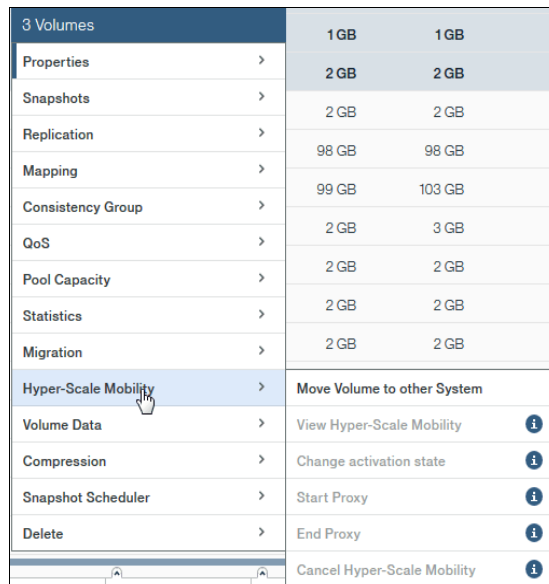

Figure 7-9 Online volume mobility menu
- To create the Hyper-Scale Mobility relationship, select the source volumes in the Volumes view and select **Hyper-Scale Mobility** → **Move Volume to other System**, as shown in Figure 7-9.